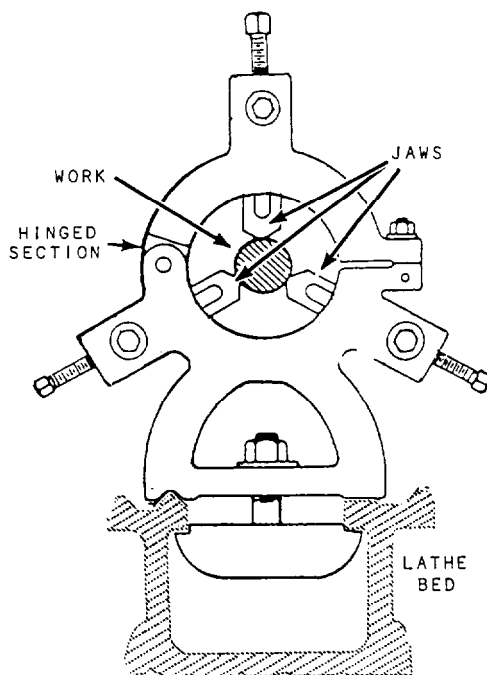

Figure 9-13.—Center rest.
2. To support and provide a center bearing for one end of the work, such as a shaft, being bored or drilled from the end when it is too long to be supported by a chuck alone. The center rest is clamped in the desired position on the bed and is kept aligned by the ways, as illustrated in figure 9-13. The jaws (A) must be carefully adjusted to allow the work (B) to turn freely and at the same time remain accurately centered on the axis of the lathe. The top half of the frame is a hinged section (C) for easier positioning without having to remove the work from the centers or to change the position of the jaws.